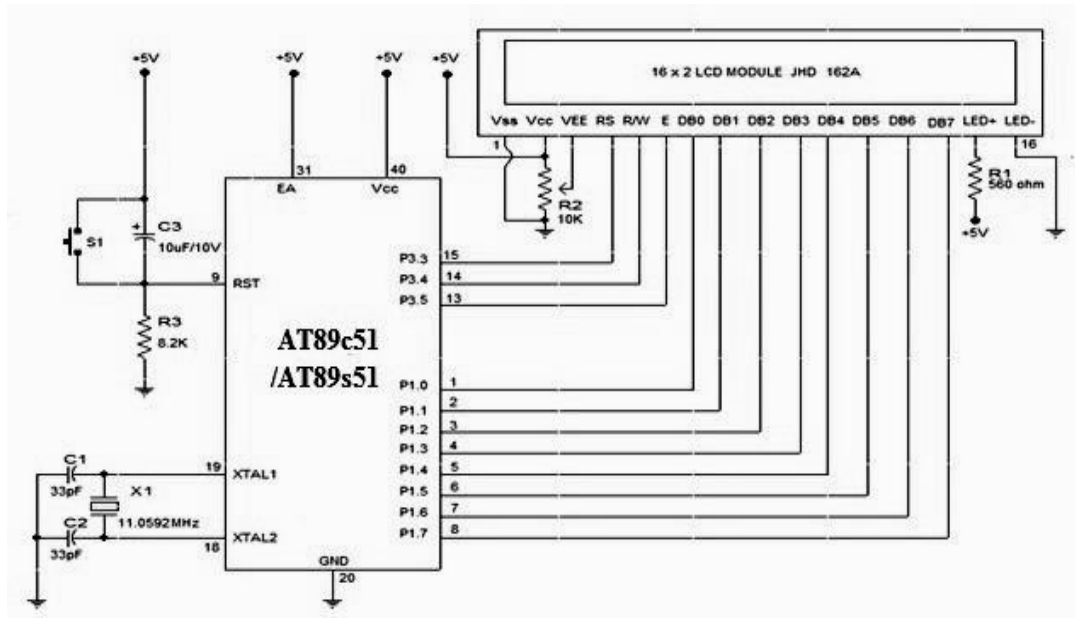

Figure 11.4: 89C51 connection to LED and switch
8. Interface LCD to microcontroller as per circuit diagram shown in Figure. 11.4